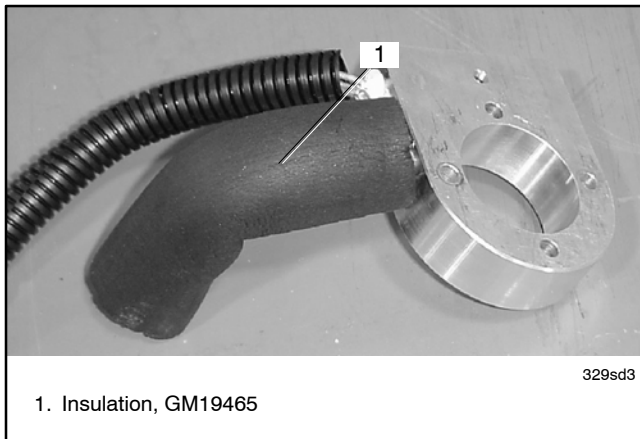

Figure 8 Breather Tube Insulation
- 4.3 Install the breather insulation, GM19465, over the copper breather tube. See Figure 8.